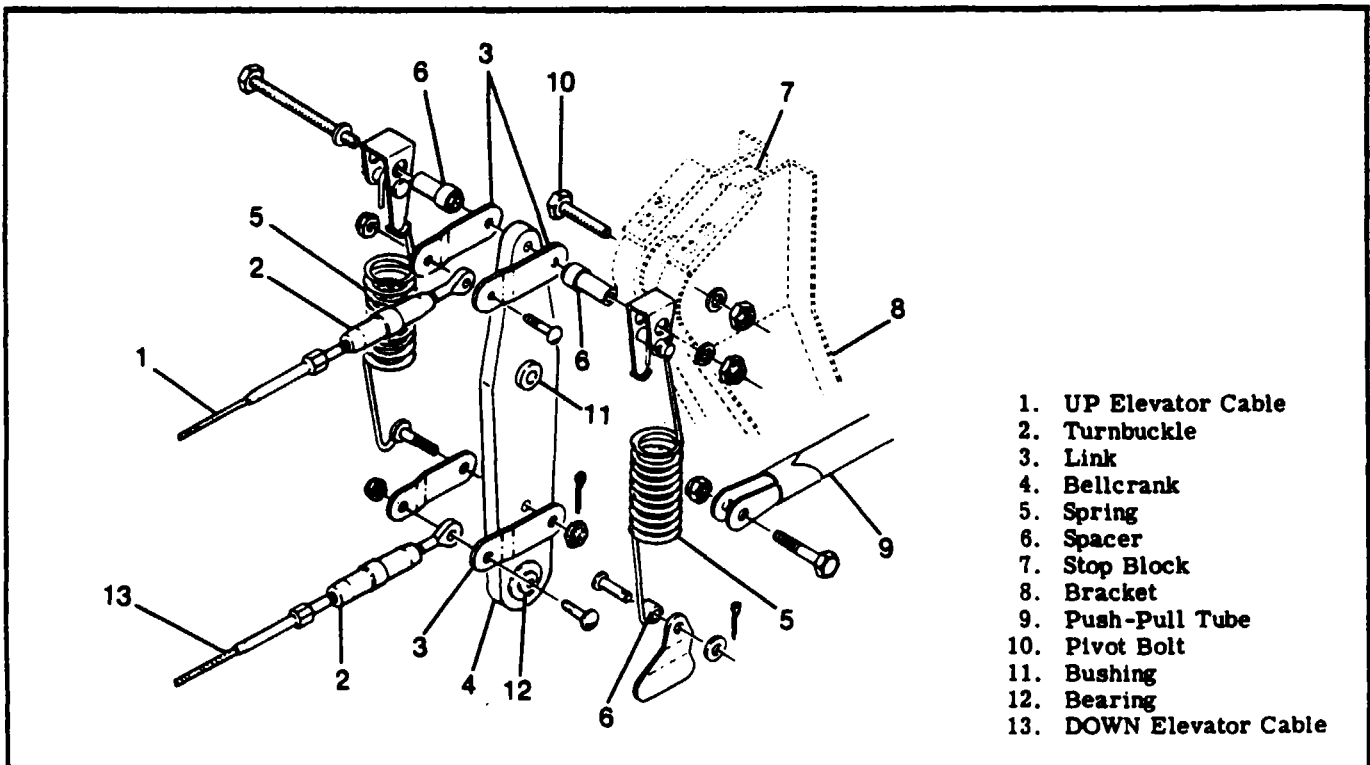

Figure 8-3. Elevator Bellcrank Installation
8-8. BELLCRANK. (See figure 8-3.)
- d. Disconnect cables at bellcrank links (index 3, figure 8-3).
8-14. RIGGING. (See figure 8-3.)
- d. Adjust turnbuckles (2) equally to tension specified in figure 8-3.
- e. Check sponge at control column in both UP and DOWN positions and if necessary, readjust turnbuckles (2) to prevent the control column from hitting the instrument panel or firewall.